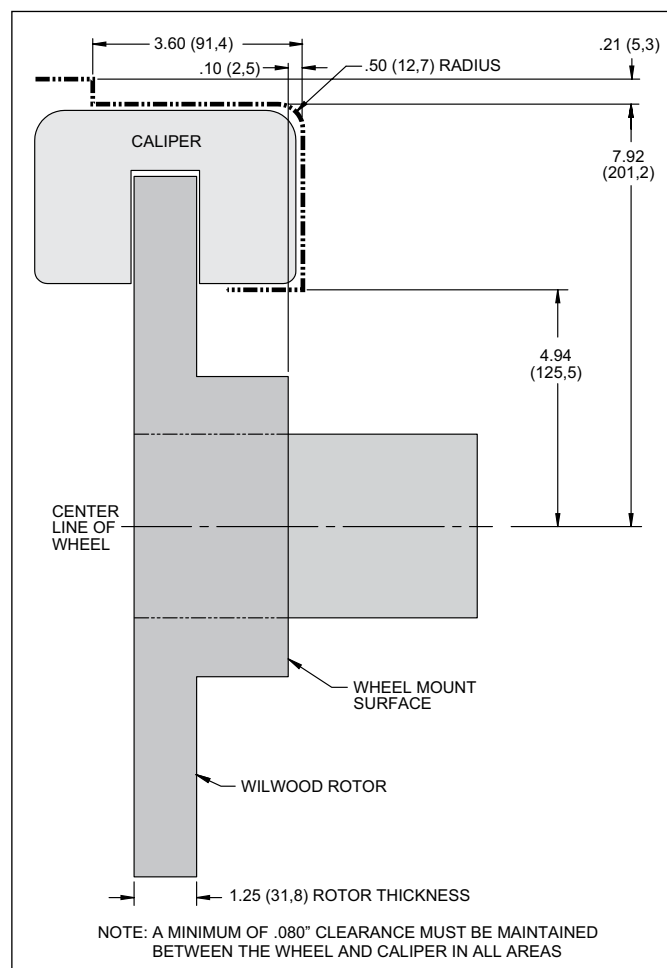

Figure 3. Wheel Clearance Diagram
- Verify your wheel clearance using Figure 3.